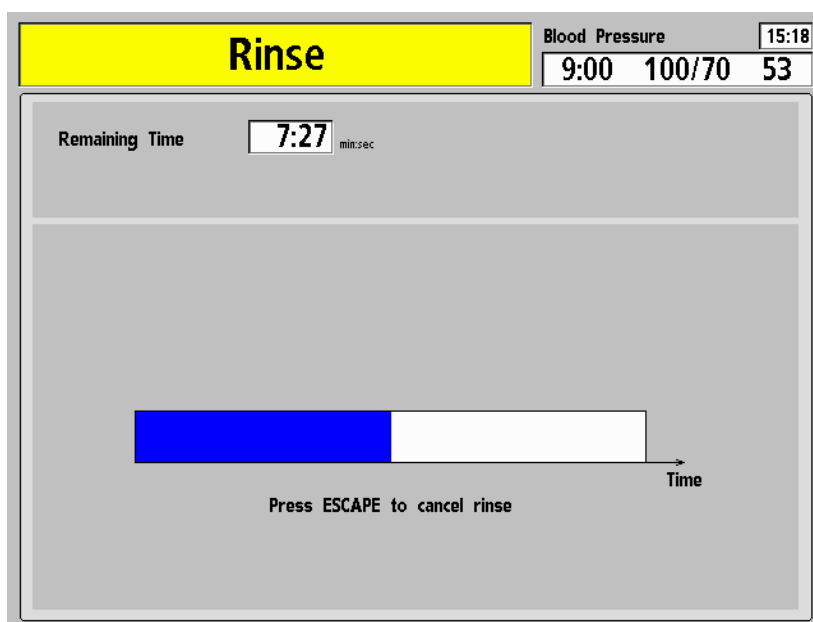

Figure 52 – The Rinse Screen
3. The “Rinse” screen appears in the display (see Figure 52).